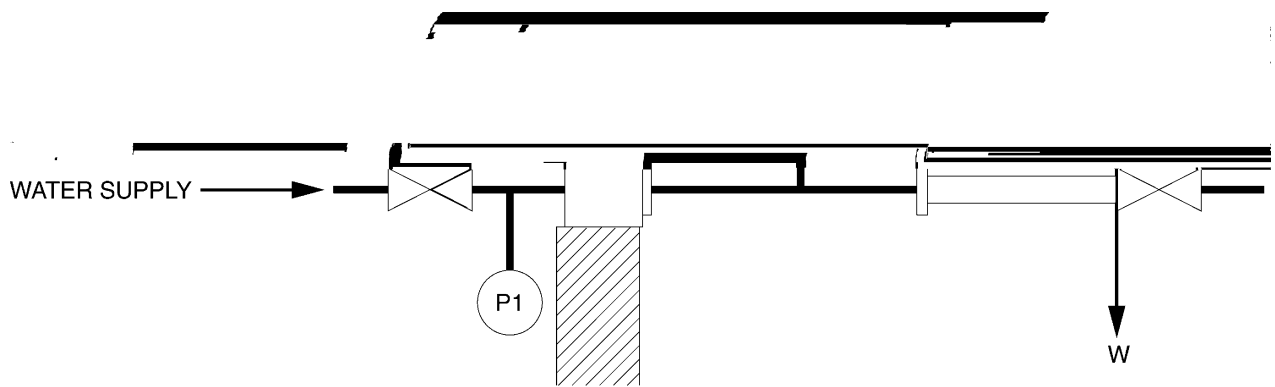

FIG 81
- (1) Mount the device in the test system in its normal working position. (Reference Figure 81).
- (2) Purge the system by opening valves '1' and '4'. The bending moment is measured at the connection to the pipe. In calculating the bending moment, make due allowances for the mass of the pipework, valves and any loads imposed by the test.
- (3) Apply a load W as shown in Figure 81, to produce the bending moment given in Table 81.